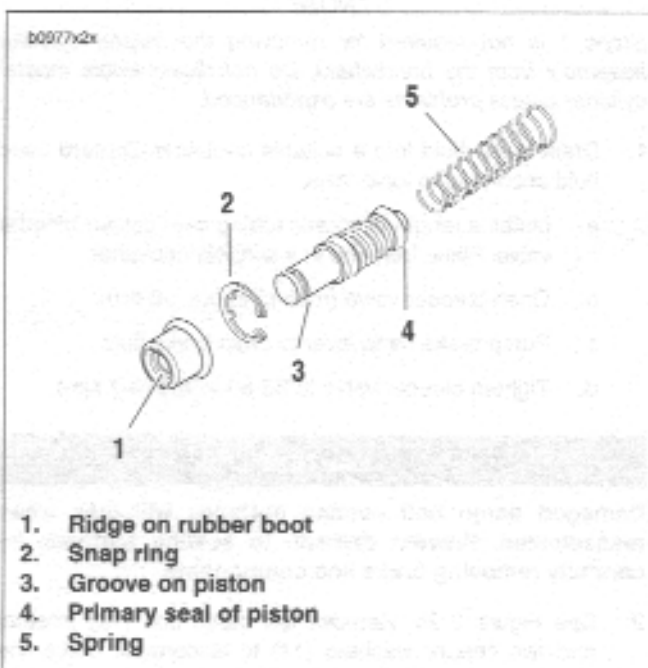

Figure 2-34. Front Master Cylinder Piston Assembly
3. See Figure 2-34. Remove rubber boot (1) and discard.
2. See Figure 2-34. Assemble new piston components placing small end of spring (5) behind primary seal of piston (4).
6. See Figure 2-34. Install ridge on boot (1) into groove on piston (3).